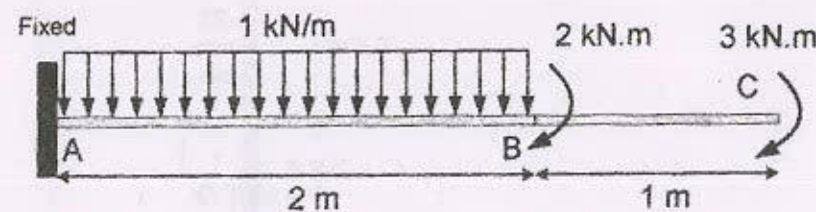

Fig. 3
b) Draw Shear Force Diagram (SFD) and Bending Moment Diagram (BMD) for a cantilever beam ABC of length 3 m, fixed at A and free at C as shown in Fig. 3. AB (2 m) portion is loaded with uniformly distributed load of 1 kN/m, two moments are applied at B and C with magnitude 2 kN.m and 3 kN.m respectively. [13]